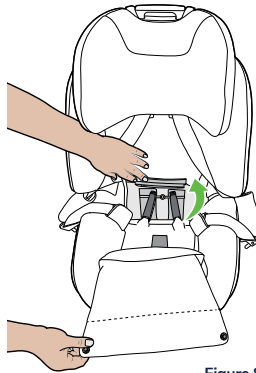

Figure 8
Step 1. Open ISOGO storage compartment door on the backrest portion of the seat to reveal the ISOGO connectors (Figure 8).